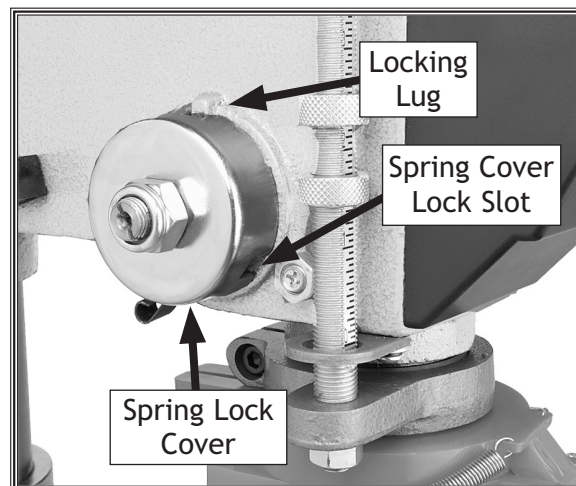

Figure 26. Feed shaft return spring assembly.
2. Wipe off any oil on the spring lock cover so it does not slip in your fingers when you hold the cover from spinning (see Figure 26).